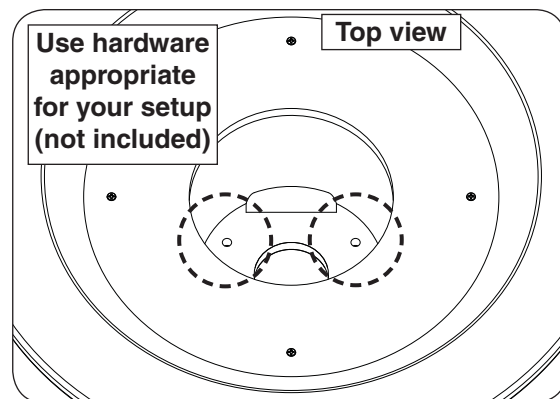

Fig. 23-4 Mount unit to floor (if applicable)
1. Using appropriate mounting hardware for the floor material/construction, secure the unit into the floor. The interior of the unit has two $\frac{1}{2}$ " holes that will allow for the unit to be fastened to the floor. See Fig. 23-4.